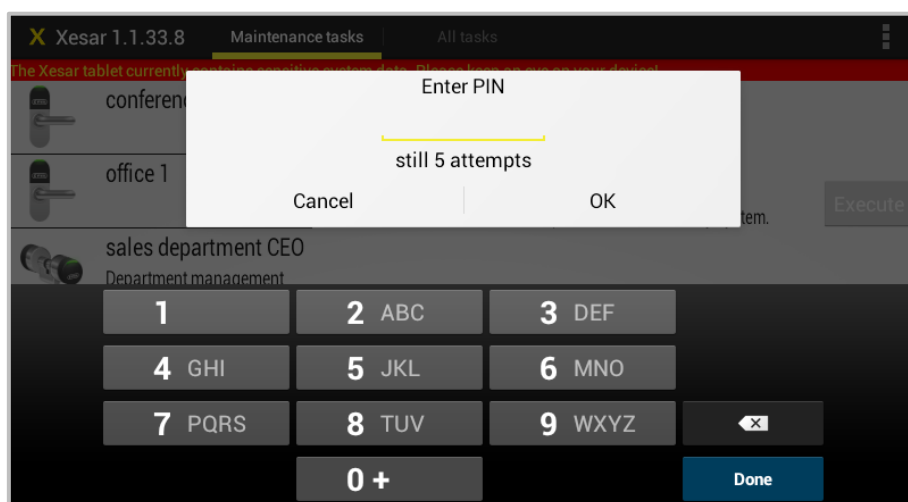

Figure 84: Xesar tablet — entering the initialisation PIN
- You are prompted to enter your initialisation PIN. (Figure 84: Xesar tablet — entering the initialisation PIN) Enter the **4-digit code**.